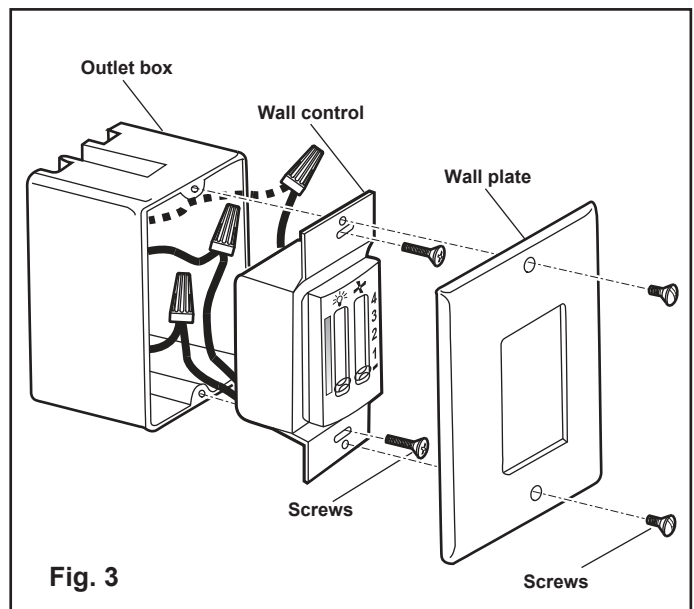

Fig. 3
4. Attach the wall plate over the wall control and secure with the two screws provided (Figure 3).